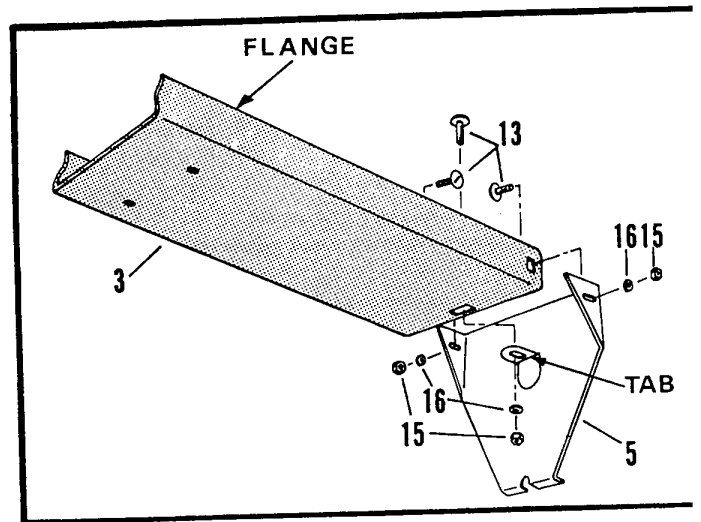

FIG. 1
Refer to Fig. 1
- Weight should be added with Drawbar attached to Tractor Drawbar and may be secured with rubber tie down straps, bailing wire, nylon rope, or any suitable binding material. Hole in Tray End Plates can be used to secure bindings (See Fig. 1).